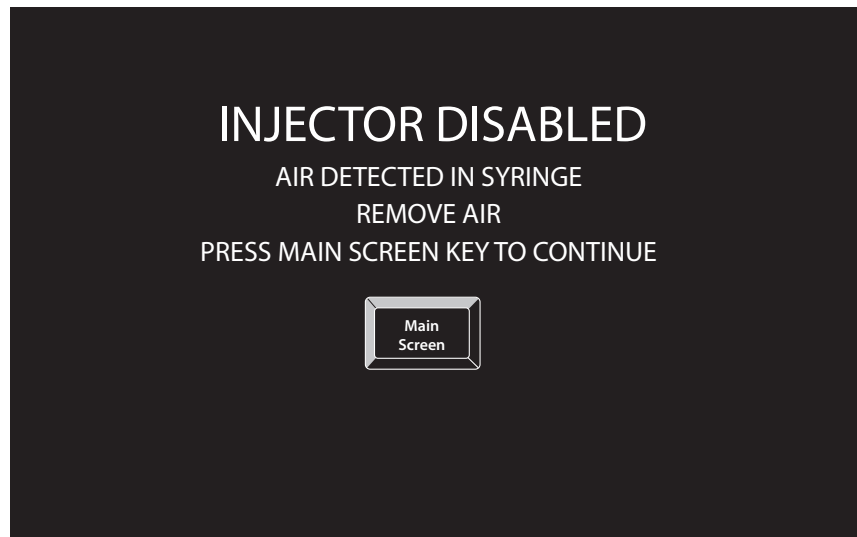

Figure 8-1-7 Injector Disabled Message
7. When ADAWS detected air during an injection, the screen shown in Figure 8-1-7 appears. Once ADAWS detects air, it immediately stops the injection.